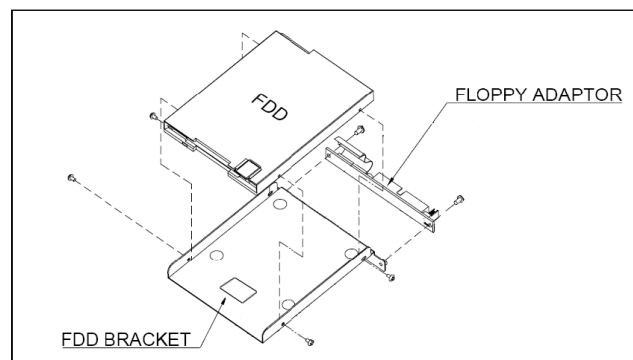

Figure 3-4: FDD Adapter and FDD Bracket Installation
Step 2: Attach the FDD adapter to the FDD by aligning the two retention screw holes in the FDD adapter with the retention screw holes on the rear side of the FDD bracket. Insert two retention screws into the adapter. (See **Figure 3-4**) Connect the FDD adapter and FDD with the twisted cable.